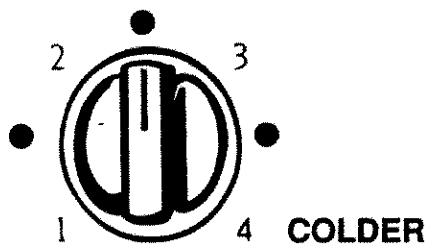

Figure 1
- Locate refrigerator control inside compartment on upper rear wall. Set control to "2-1/2" and adjust as desired after 24 hours. "1" is warmest setting; "4" is coldest setting. See Figure 1.